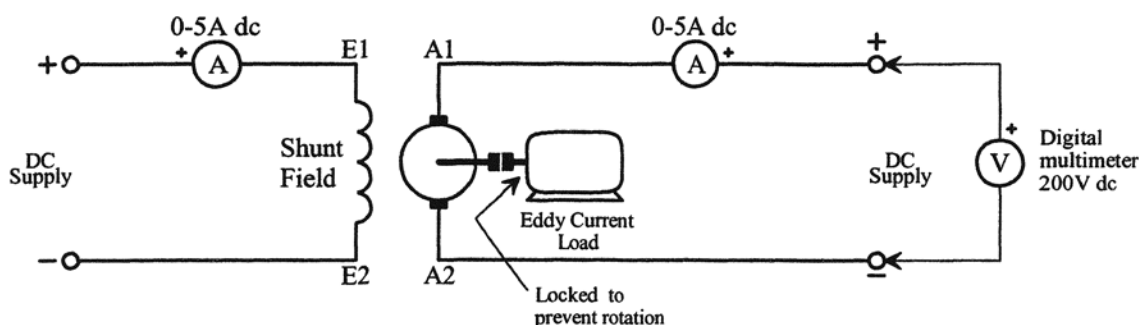

Figure 1
2. Connect the shunt motor, with eddy current load attached, as shown in figure 1. Ensure the eddy current load is "**locked**" to prevent rotation.